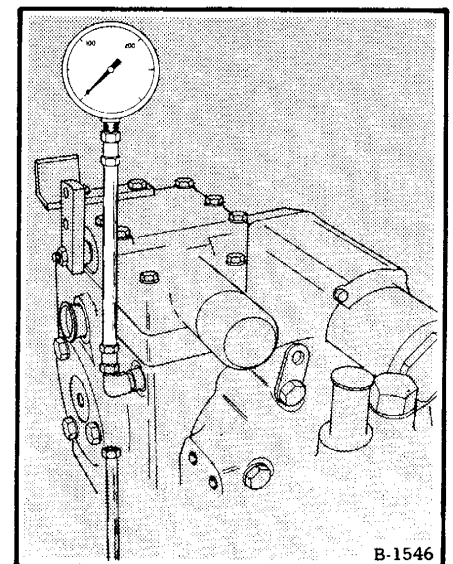

Fig. 91 Checking Charge Pump Pressure
2. Install a 0 - 250 PSI pressure gauge at the displacement line port on the pump (Figure 91).